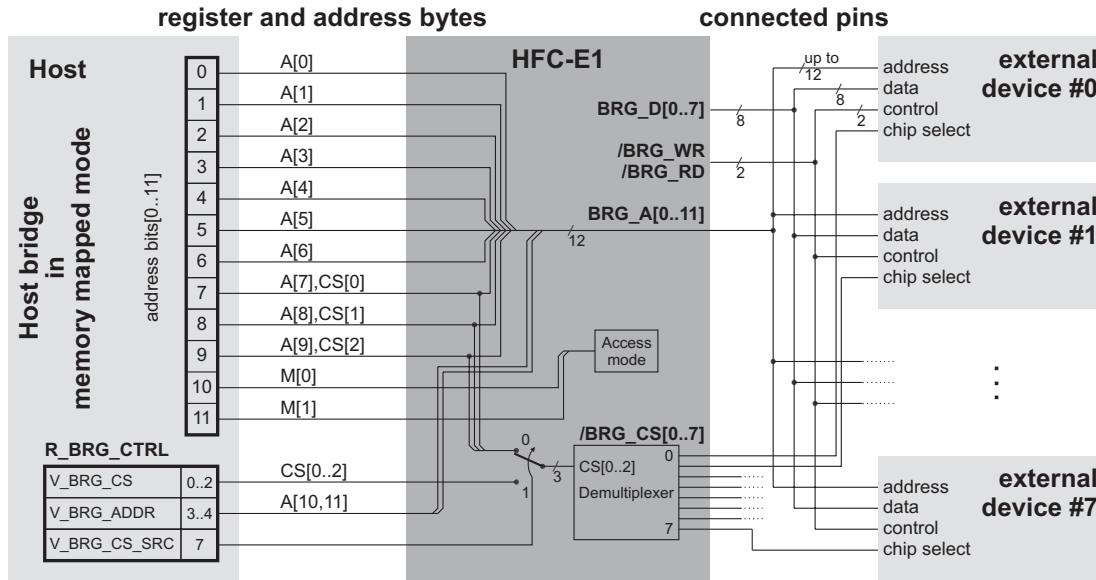

Figure 11.3: Host bridge structure in memory mapped mode
In memory mapped mode the control register R\_BRG\_CTRL can be used to perform read and write accesses with a large address space. External devices with up to 10 address lines do not require this register. If R\_BRG\_CTRL is not used, the exact number of available address lines depends on the number of external devices. An overview of this functionality is given in Figure 11.3.
1. If the external devices have not more than 7 address lines, the register R\_BRG\_CTRL is not necessary for bridge accesses. The bridge operation can be performed with 12 address bits as shown in Figure 11.3. Up to 8 external devices can be connected to the HFC-E1.